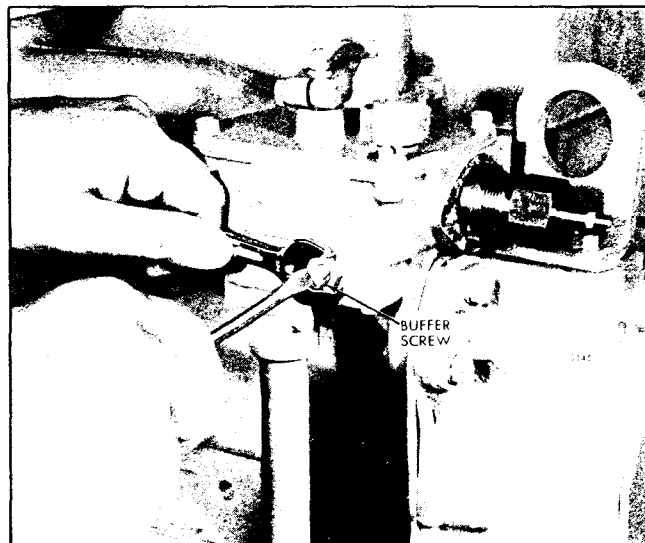

Fig. 6 - Adjusting the Buffer Screw
temperature, loosen the lock nut and turn the buffer screw in (Fig. 6) so that it contacts the differential lever as lightly as possible and still eliminates engine roll.
3. Start the engine and loosen the idle speed adjusting screw lock nut. Then adjust the idle screw (Fig. 6) to obtain the desired engine idle speed.